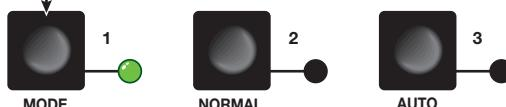

Figure 9. Selecting an Input
1. Select the desired input by pressing the associated input button (see figure 9).